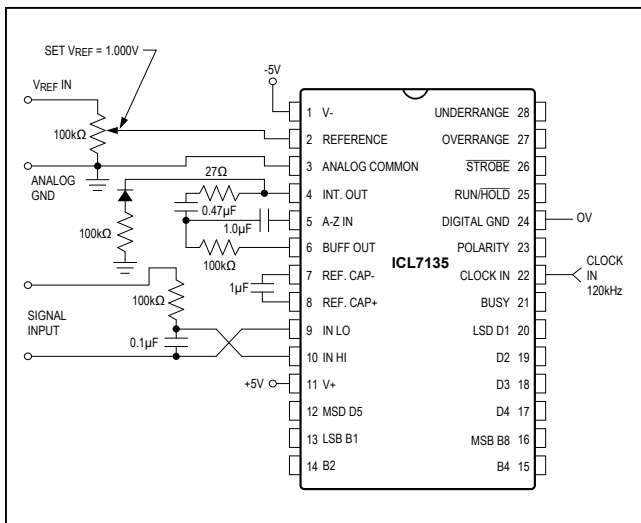

Figure 1. ICL7135 Test Circuit
- Note 1:** Tested in 41/2 digit (20,000 count) circuit shown in Figure 1, clock frequency 120kHz.
**Note 1:** Tested in 41/2 digit (20,000 count) circuit shown in Figure 1, clock frequency 120kHz.
The ICL7135 is tested for rollover using the circuit of Figure 1, with the 100kΩ resistor and diode in the circuit. The diode is noncritical, and is typically a low cost 1N4148. The resistor value is dependent on many factors including integrator swing, clock frequency, and the amount of rollover error due to “charge suckout” on the reference capacitor. 100kΩ is the optimum value for most circuits and is the value used in testing the ICL7135.